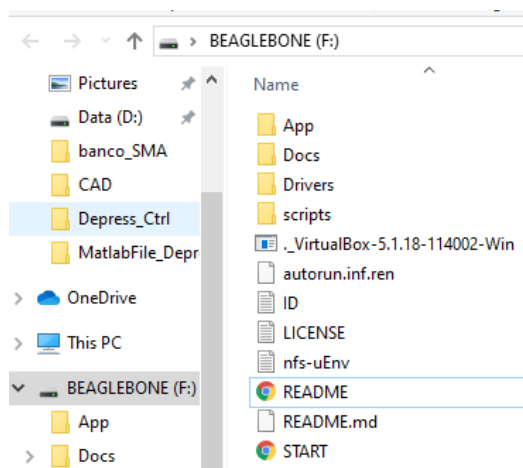
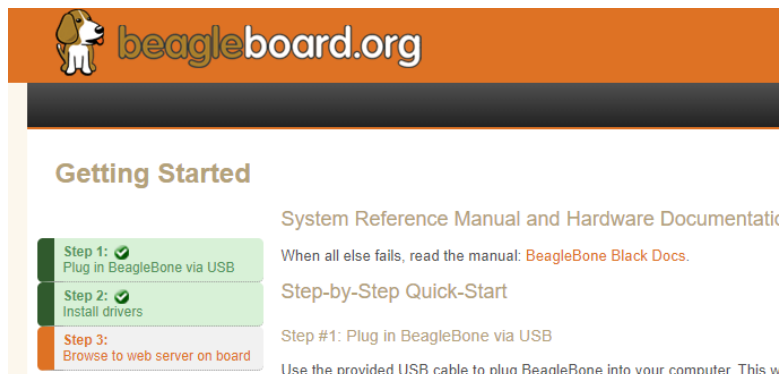

Figure 2 – README file
Figure 3 – Getting started with tick on the left to show the steps correctly ended
- Open the README file and follow the instructions to install the driver (see Figure 2 and Figure 3). Read carefully the note especially if you have 64 bit Windows OS. On the left you have a counter that tells you if the installation of the driver is completed